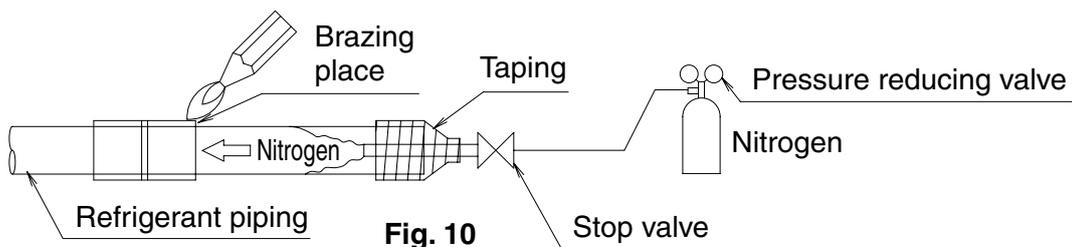

Fig. 10
- Before brazing refrigerant piping, have nitrogen flow through the refrigerant piping and substitute air with nitrogen (NOTE 1) (**Refer to Fig. 10**). Then, carry out brazing (NOTE 2). After all the brazing works are finished, carry out flare connection with the indoor unit. (**Refer to Fig. 9**)